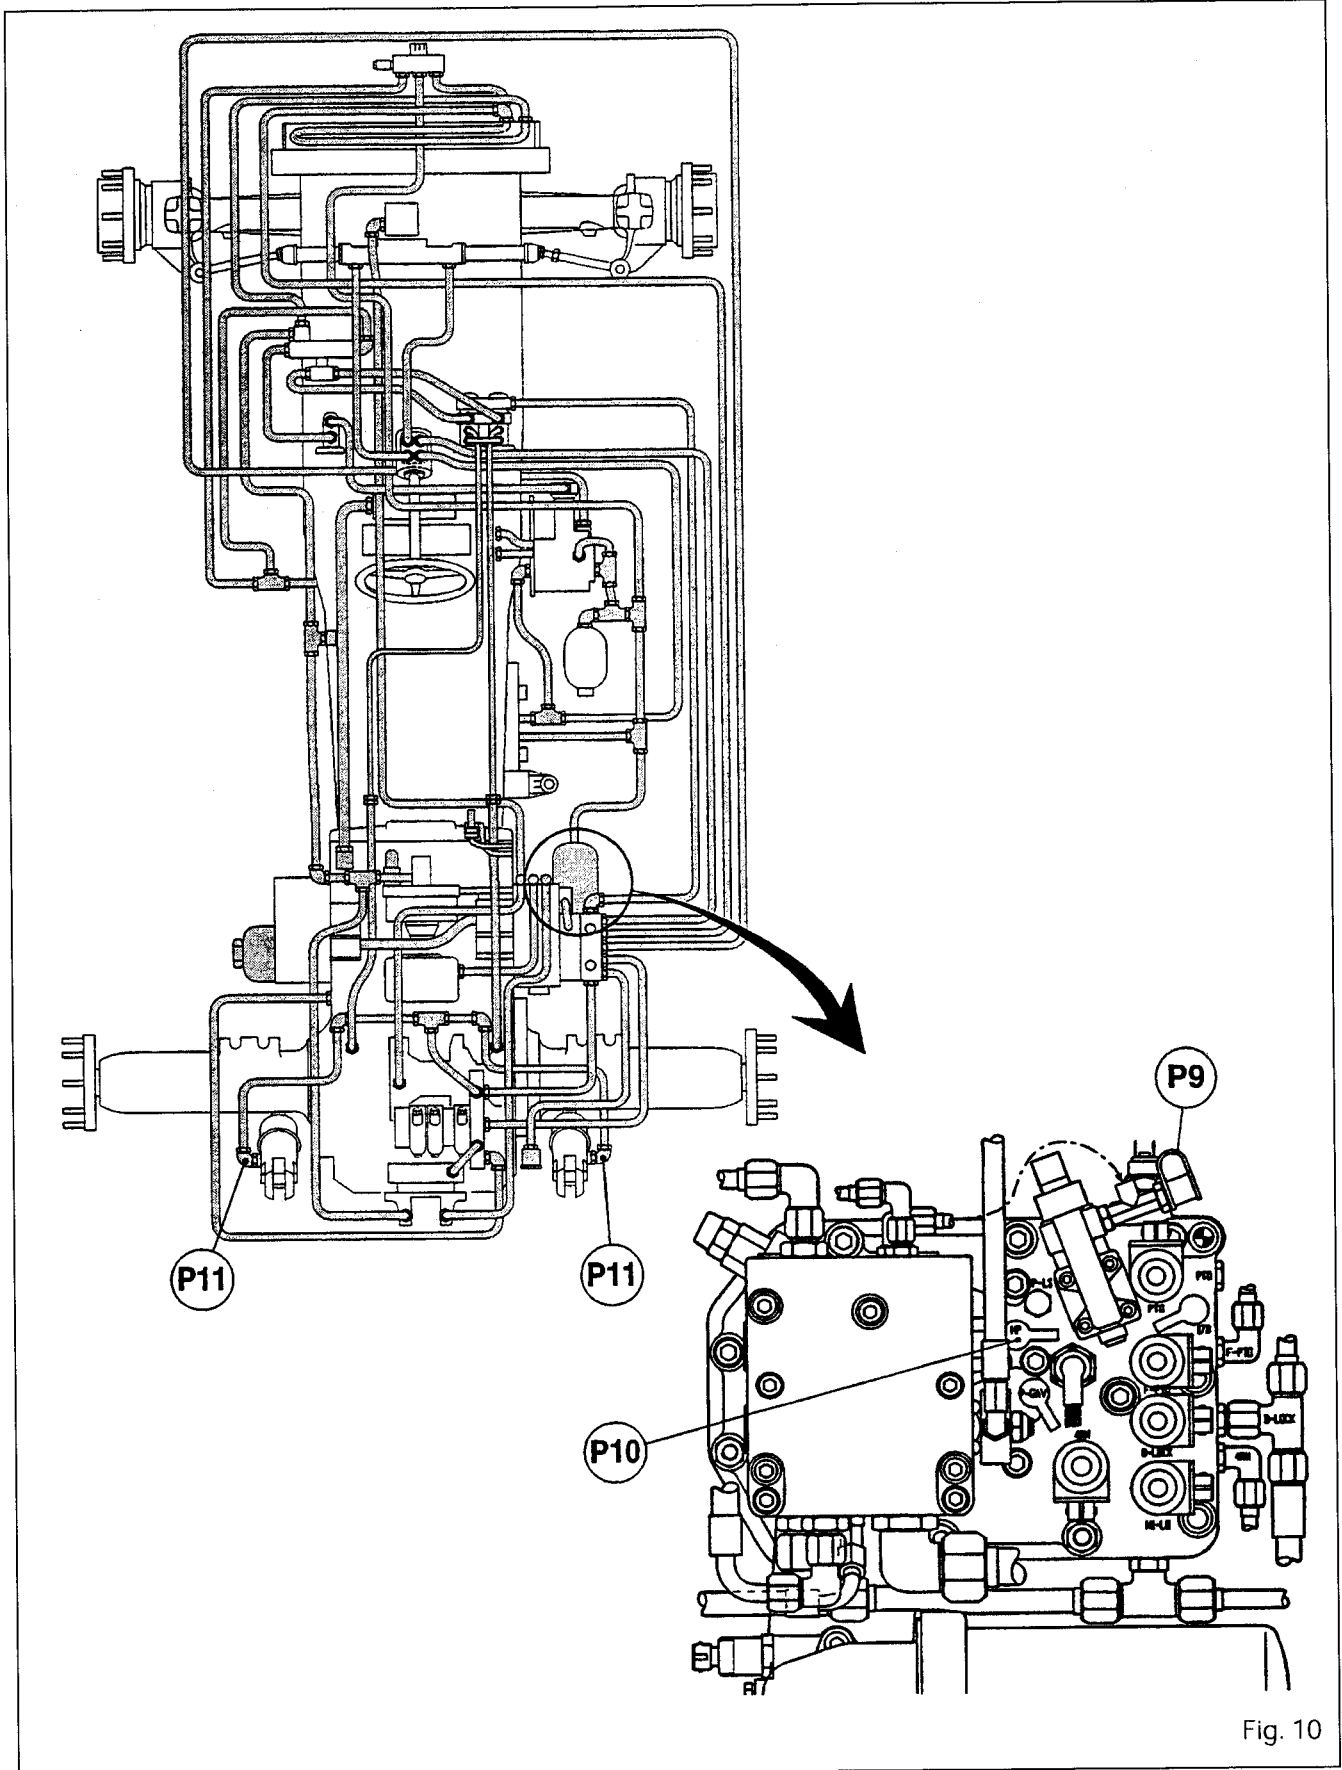

Fig. 10
- With the engine stopped, connect a hand-operated calibrating pump to the lift rams (with the rams linked together) (Fig. 10).